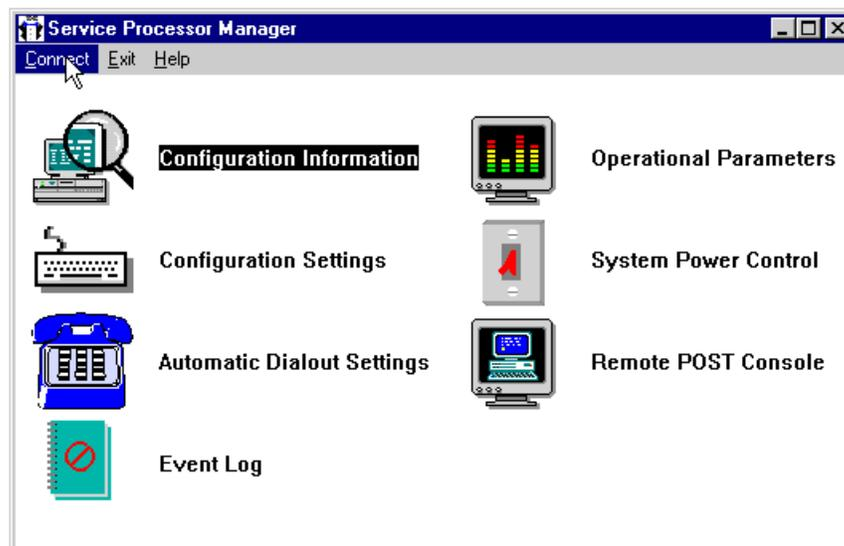

Figure 130. Connecting to a Remote Service Processor
4. From the menu bar select **Connect** as shown in Figure 130